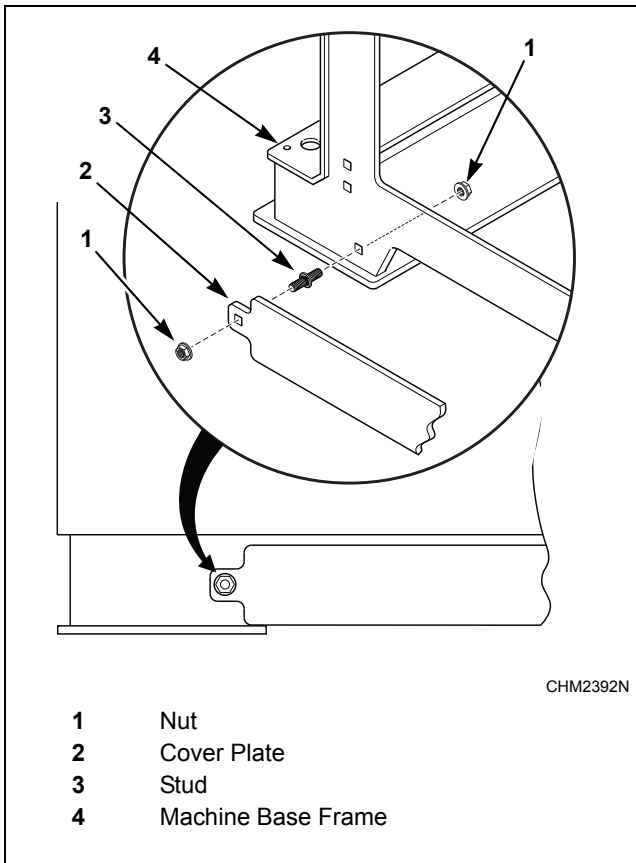

Figure 53
1. Locate the two holes on the front of the machine base frame. Refer to *Figure 53*.
2. Using the hardware from removing plate from back panel, install the cover plate to the machine base frame. The square on stud goes into square hole in machine frame. Refer to *Figure 53*.